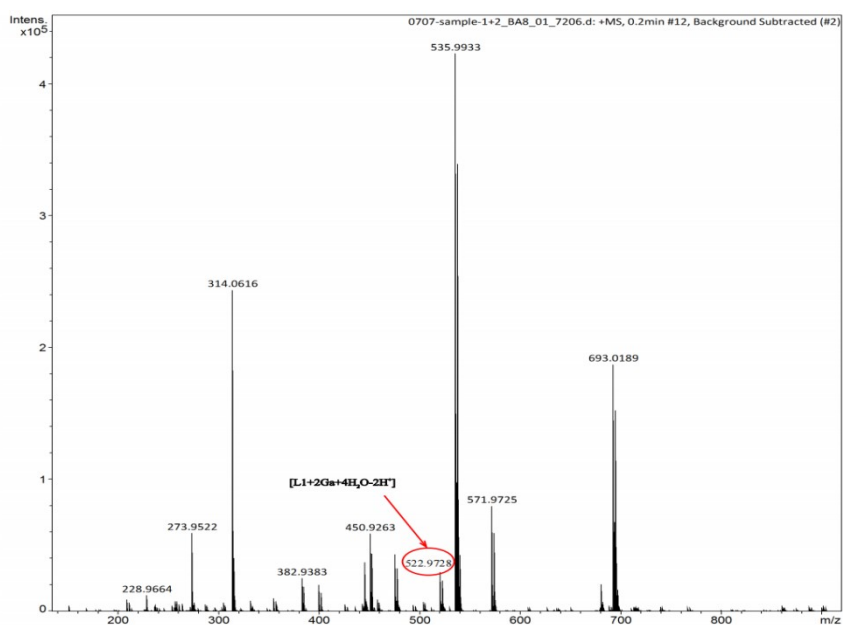

Figure S14. ESI-MS of **L1** with addition of Ga³⁺.
14. **Figure S14.** ESI-MS of **L1** with addition of Ga^{3+} .